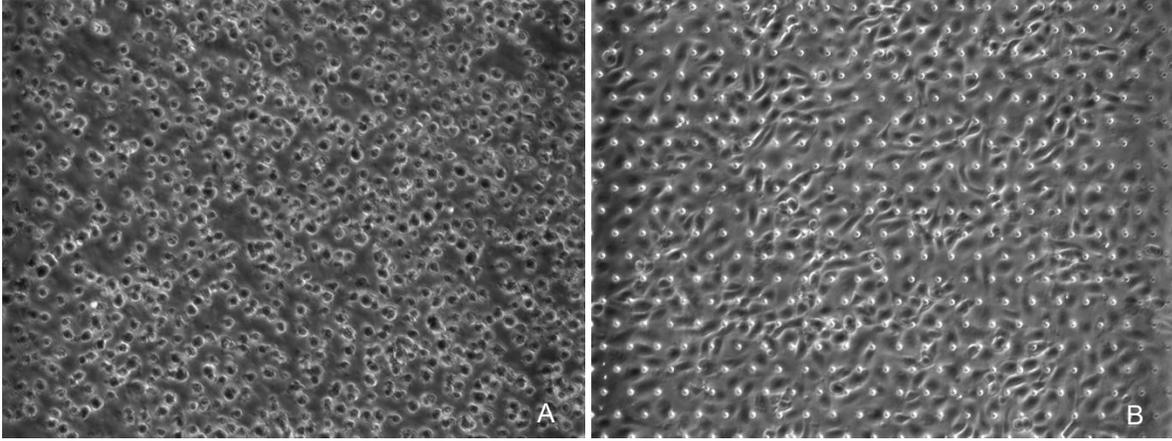

Figure 6: A. HIMEC optimum cell seeding density; B. HIMEC attached on chip 2 hours post-seeding.
7. If seeding density is not optimal, close to 8 M/ml return the chip to the BSC and wash the channel with 200 μ L of fresh medium 2 times (See Figure 6.) Do not aspirate the medium from the channel. Adjust cell density accordingly, and repeat steps 3 through 5 until the correct density is achieved within the channel. Note: Correct seeding density is essential for success of the chip cultures.